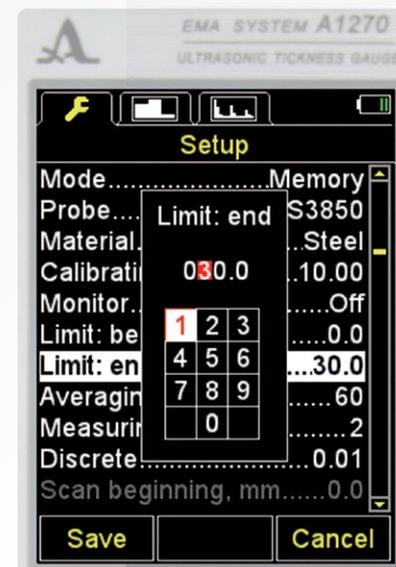

Figure 36
**F2** ( edit ) or  – open the table with numbers to set of the upper actuation boundary of the AFA (Figure 36).